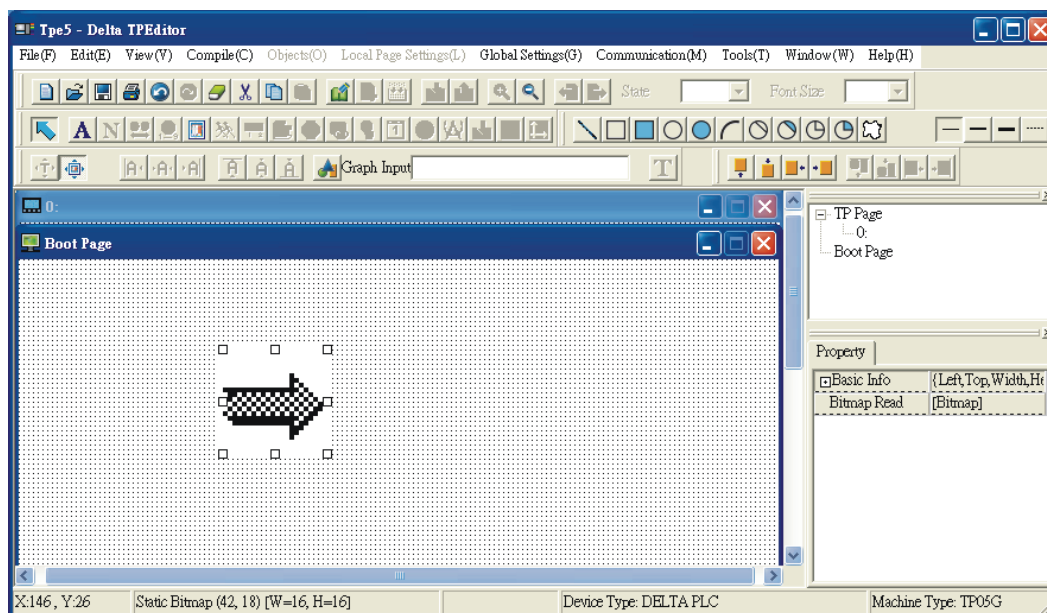

Figure 3-4
Step 4. After selecting the desired BMP file and press **Open(O)** button, the screen will look like the Figure 3-4 below.